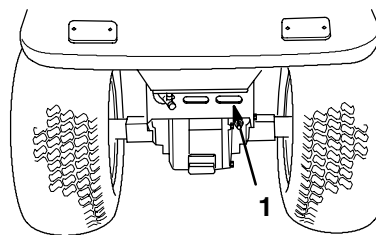

Figure 11
9. Clean debris from the rear transaxle cover (Fig. 11).